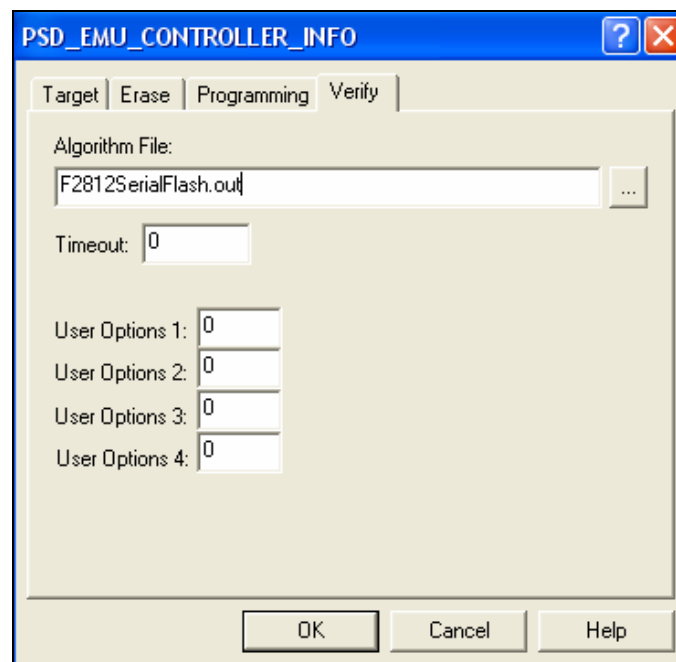

Figure 6: PSD_EMU_CONTROLLER_INFO Verify Tab
9. In the PSD_EMU_CONTROLLER_INFO Verify tab shown in *Figure 6*.
9.1. Please make sure that the screen setup for the Verify tab is as shown in *Figure 6*.